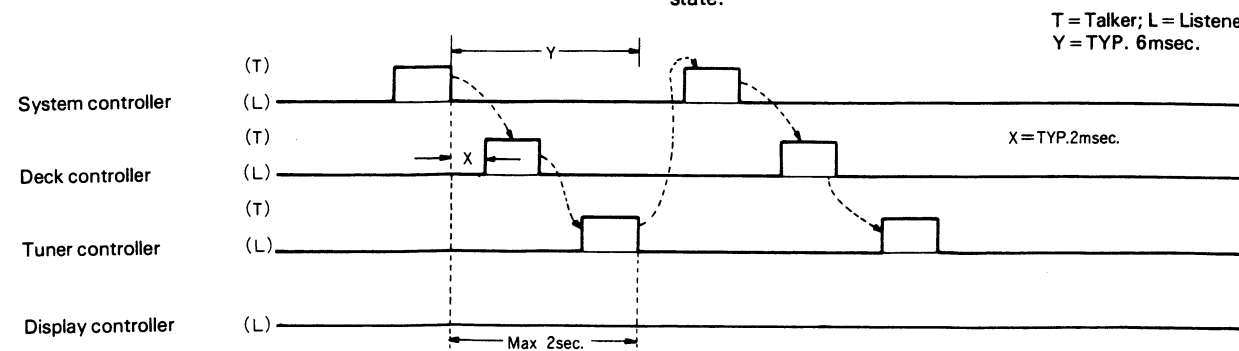

Fig. 12 Sequence of Switching between Talker and listener
In this unit, a system controller (PD4055A), a deck controller (PD 4056A), and a tuner controller are linked via eight bit serial data transmission. There are three signal lines. These are: a data line (SD), a serial clock line (SCK), and a \overline{CS} line between the system controller and the display controller. The system, deck, and tuner controllers switch automatically between talker and listener in the sequence shown in Figure 12. The display controller is "listener only", and obtains 80 bits of serial data from the \overline{CS} signal from the system controller.
Data is transmitted among the controllers by switching between talker and listener in the order shown in Figure 12 (system to deck to tuner to system). If two seconds pass after the command controller transmits a command, without a command being transmitted by either the deck or tuner controller, the system controller will transmit a "reset" command, followed by a "standby" command. The tuner and deck will then be switched "off." When the deck and tuner controllers receive the "reset" command from the system controllers, they will enter the "listener" regardless of the above timing. They will receive the "standby" command from the system controller in this state.